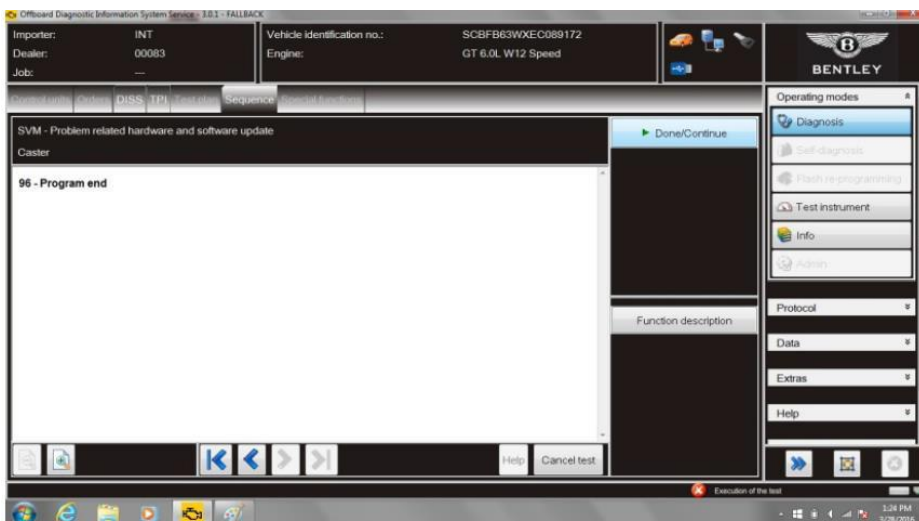

Figure 12
22. Follow the screen prompt through to the completion screen (see Figure 12)